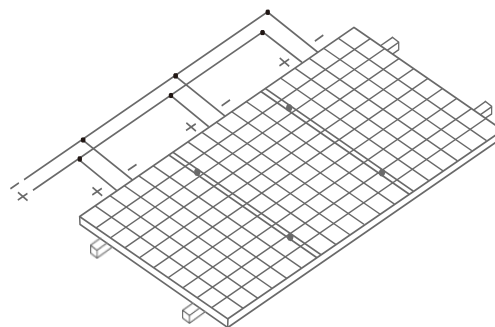

Figure 21 Connection in parallel
- When connected in parallel, the current output is equal to the sum of each string's current (as shown in Figure 21). Fuse is necessary for each Module string. Take reference to the local regulation. Recommended maximum parallel Module configurations: Fuse rating/ (1.25* short-circuit current). Please refer to the country's or local regulations for details.